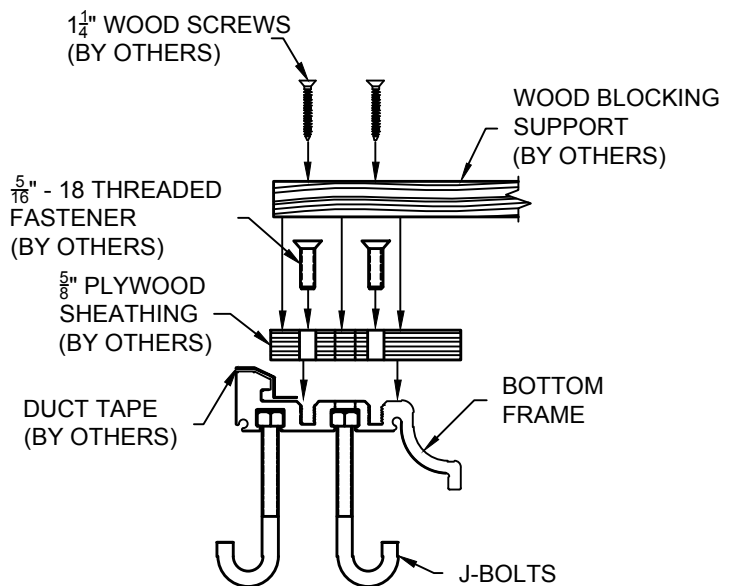

FIGURE 1.2
- 1.2) Apply Duct Tape (by others) to the exposed ADA compliant slope of the Base Frame for protection during concrete pouring. (See Figure 1.2)
- 1.4) Once the Sheathing is the correct width, fasten it to the Bottom Frame using 5/16"-18 x 1" Flat Head Threaded Fasteners (by others), utilizing the threaded slots in the Bottom Frame. (See Figure 1.2)
- 1.6) Finally, anchor Wood Blocks (by others) perpendicular to the Sheathing at 18" on center. (See Figure 1.2) Note: The Blocks must be long enough to extend into the open joint space to be attached to the existing slab blocking, as well as heavy enough to support the Bottom Frame during casting.